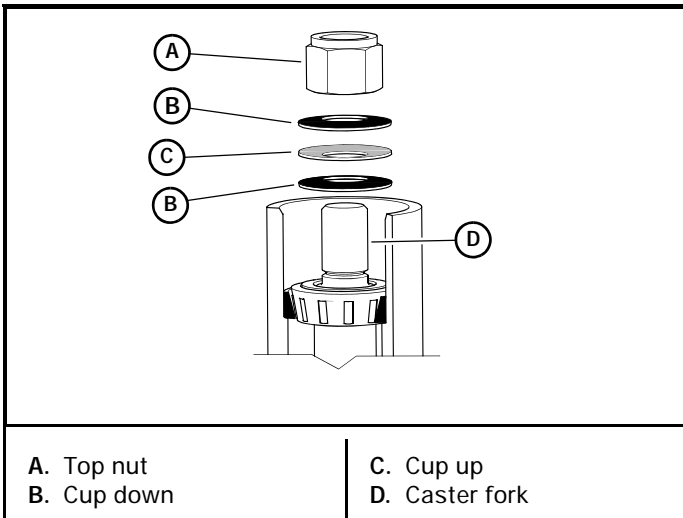

Figure 4-38
IMPORTANT: Stack the cup washers as shown in Figure 4-38.
12. Torque the top nut to 40 ft-lbs (55 N•m), then back off ¼ turn. Figure 4-38